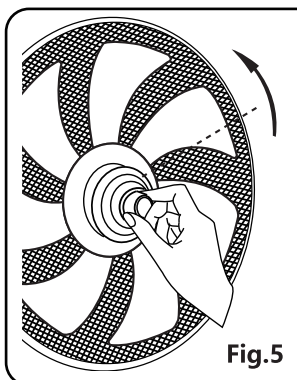

Fig.5
2. Mount the blade onto the shaft. Make sure that the rotor shaft pin fits into the groove of the blades. Turn the spinner anticlockwise to tighten the blades. (Fig. 5)